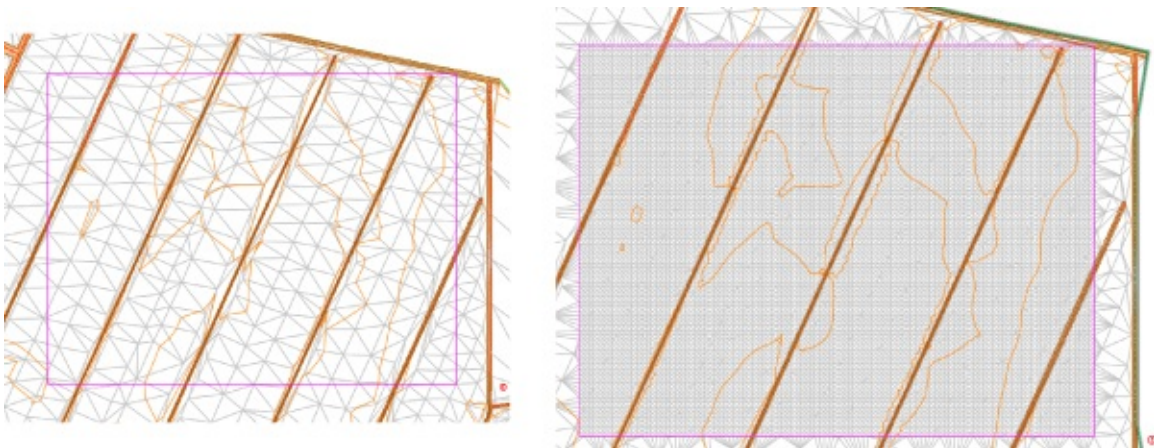

Figure 4.36 Surface before NNI smoothing (left) and after (right)
- Click OK and the surface will be smoothed, similar to what is shown on the right in Figure 4.36.